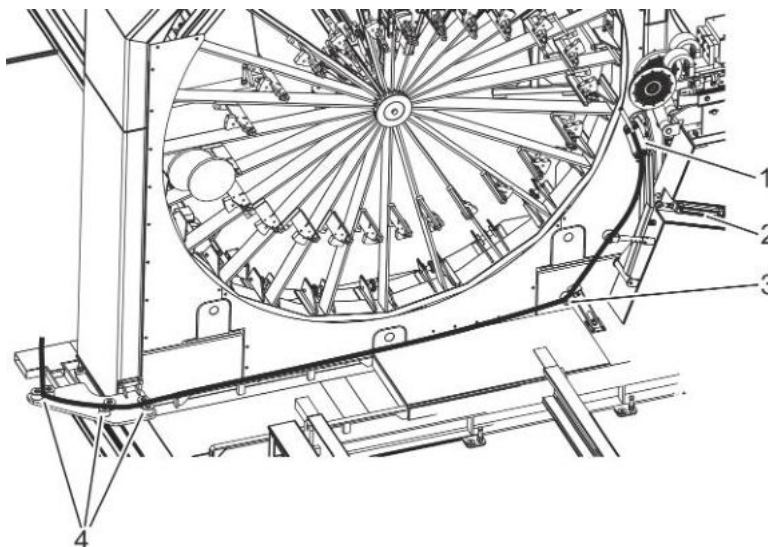

Fig. 32: Circumferential wire guide
5. Check the deflection rollers (Fig. 32/1 + 3 + 4) for function.
6. Adjust the deflection rollers (Fig. 32/1 + 3) to the required cage radius.
7. Spring action of the cylinder (Fig. 32/2) for the swivel arm on the pressure regulator (Fig. 33/1):
8. Insert the circumferential wire through the deflection rollers (Fig. 32/1 + 3 + 4).